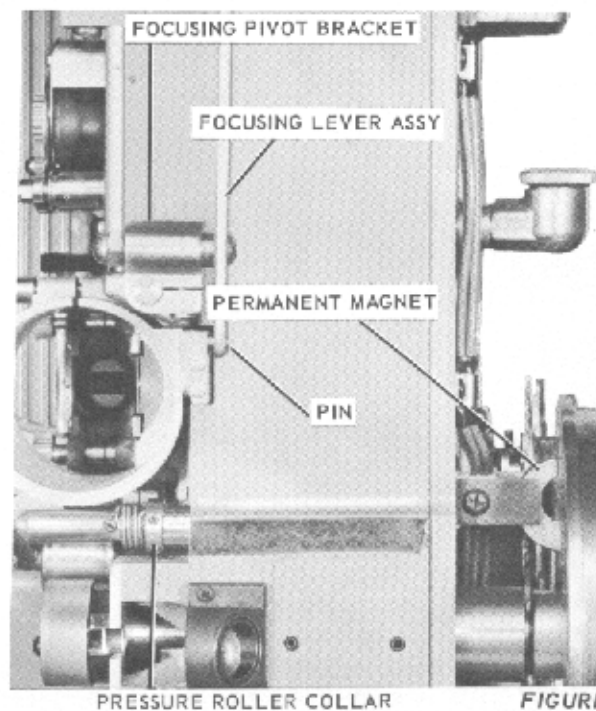

FIGURE 12
a. Remove the cap nut from the FOCUSING PIVOT BRACKET, figure 12, and remove the FOCUSING LEVER ASSEMBLY.